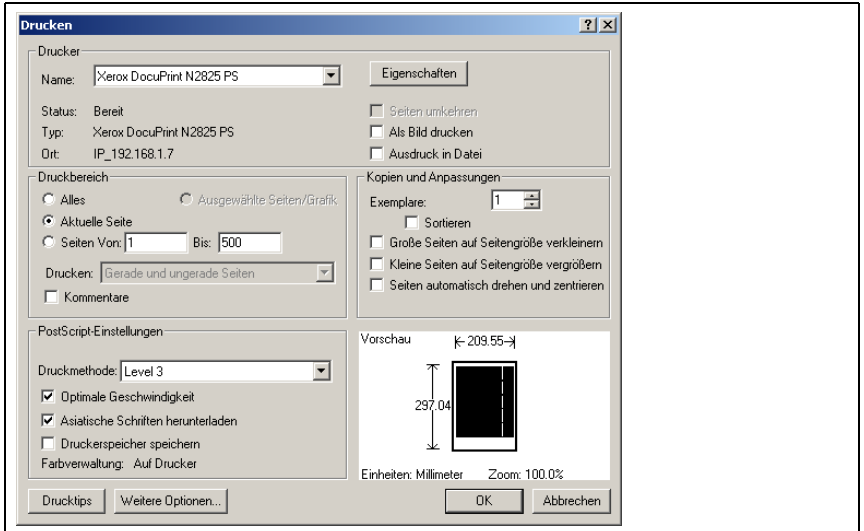

Figure 6.9: Printer settings for BCB repair kit
**Suggestion** for printer settings, see Figure 6.9.